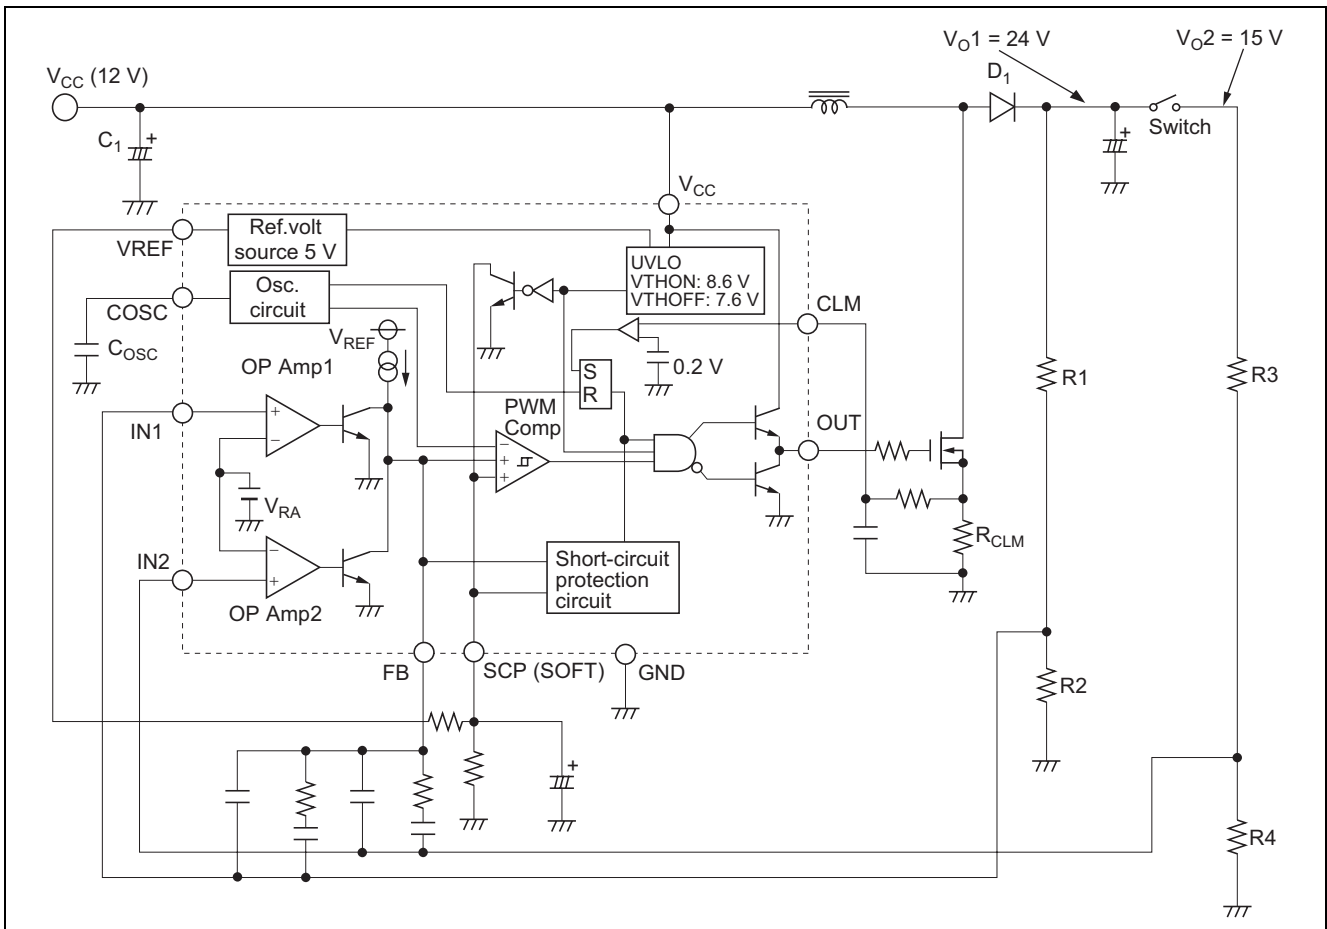

Figure 3 Application Circuit Example
1) In the application circuit in Figure 3,  $V_{O1}$  is set to 24 V and  $V_{O2}$  is set to 15 V for each output voltage.